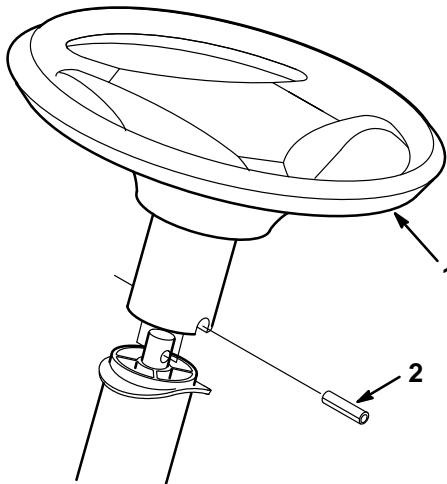

Figure 2
2. Slide the steering wheel over shaft. Line up the hole in the steering wheel with the hole in the shaft (Fig. 2). From the seat you should be able to read the brand logo on the steering wheel.
4. Using a hammer, drive the spiro pin in until it is flush with the outside of the steering wheel (Fig. 2).